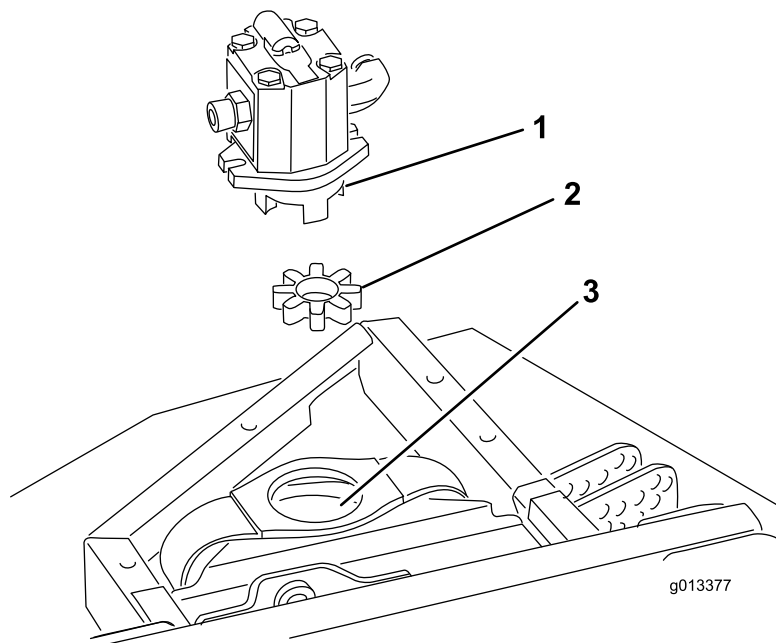

Figure 2
3. Remove the elastomeric spider from inside each pulley coupler. Inspect for wear and replace if worn. Otherwise, retain for re-installation on new deck (Figure 2).
Note: Inspect spider hub for wear and replace if worn (Figure 2).